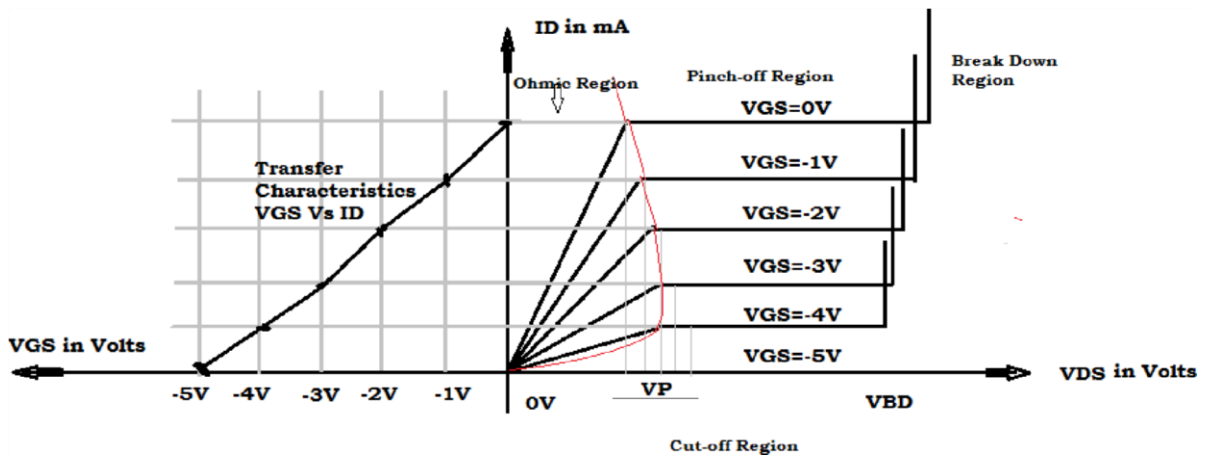

Figure 1.9: Drain and Transfer Characteristics of N-channel JFET.
i.e. more negative the V_{GS} , earlier the pinch-off, reducing I_{DSS} shown in the output characteristics, refer figure 1.9. As the phenomenon continues, it is seen that a condition arises wherein the saturation level of the drain-to-source current occurs right for a value of 0 mA. This means the current doesn't flow through the device and essentially the device will turn OFF. The value of V_{DS} for which this happens will be nothing but the negative pinch-off voltage i.e. $V_{DS} = -V_P$.